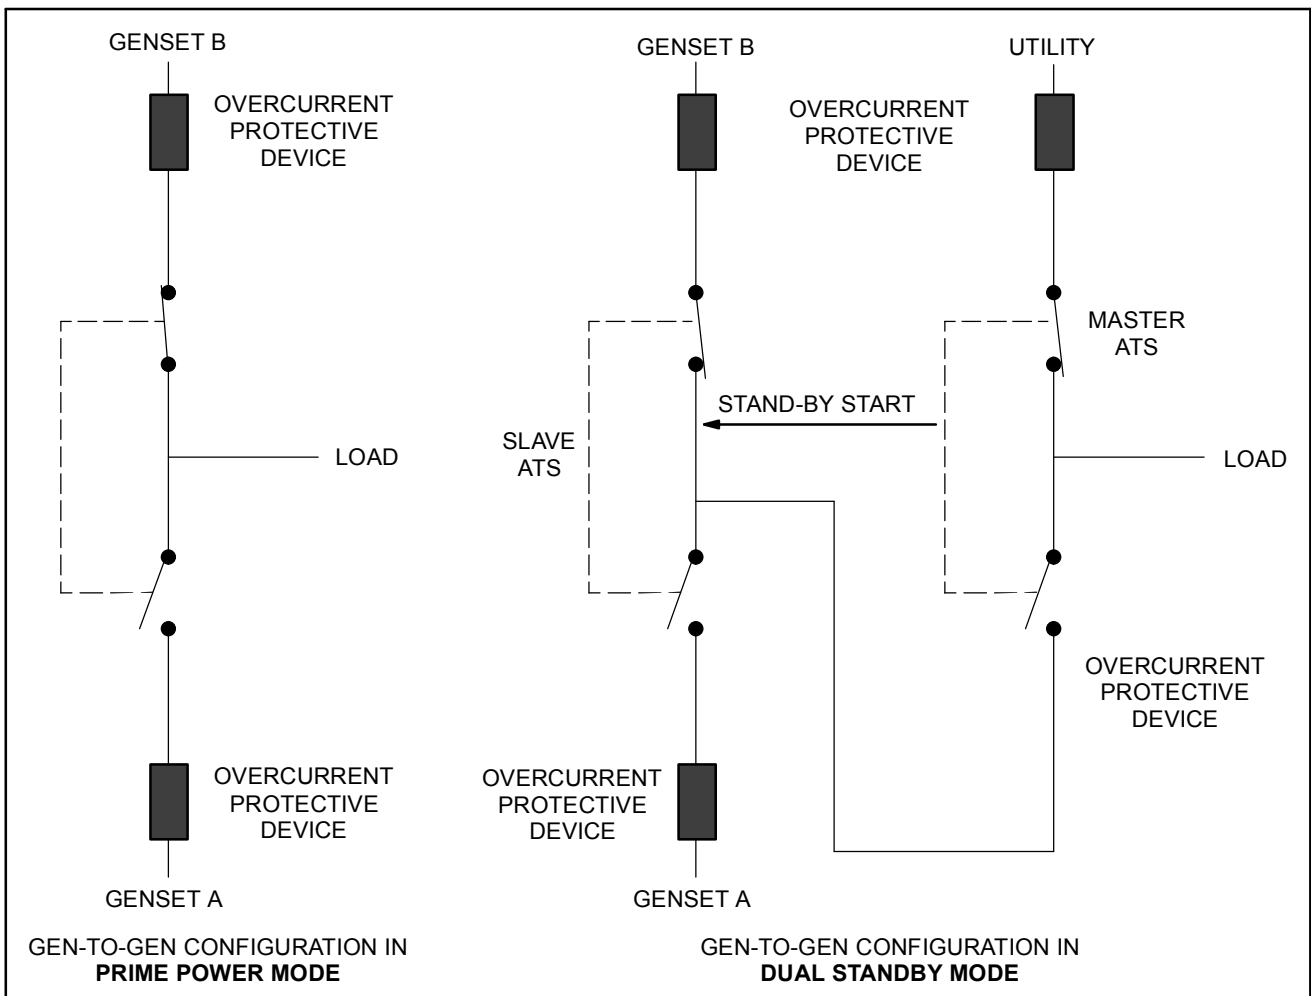

FIGURE 1-3. GENERATOR-TO-GENERATOR CONFIGURATION IN PRIME POWER AND DUAL STANDBY MODES
In genset-to-genset applications, there are two possible configurations, as shown in Figure 1-3.
1. The slave ATS begins connected to the preferred source (either genset A or B, but neither genset is operating yet) and monitors for the Stand-by Start signal from the master ATS (see Figure 1-3).
In prime power applications, utility power is not available. The system includes one transfer switch and two gensets (see Figure 1-3). One genset is always running and supplying power to the load while the other genset is the backup genset. An external power supply is not needed in this application.